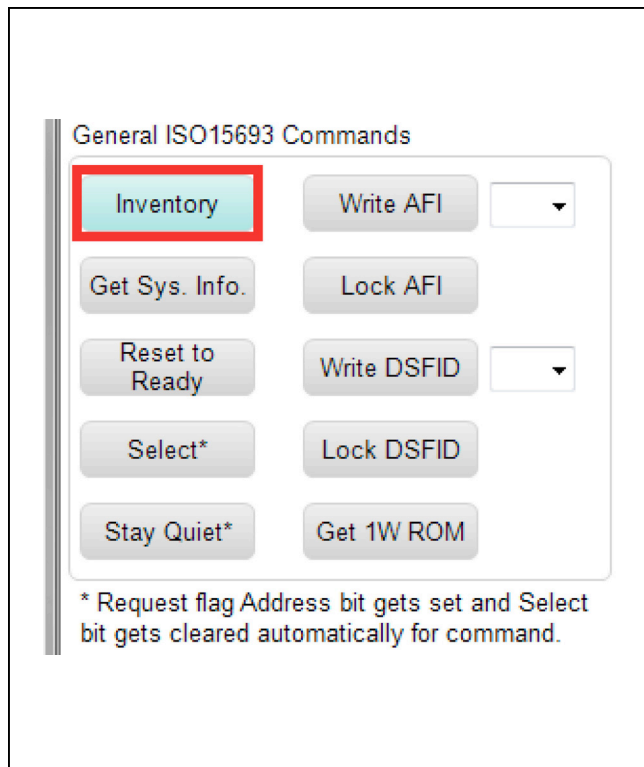

Figure 38. Inventory Button
- 1) Click on the **Inventory** button in the **General ISO 15693 Commands** group box (Figure 38).